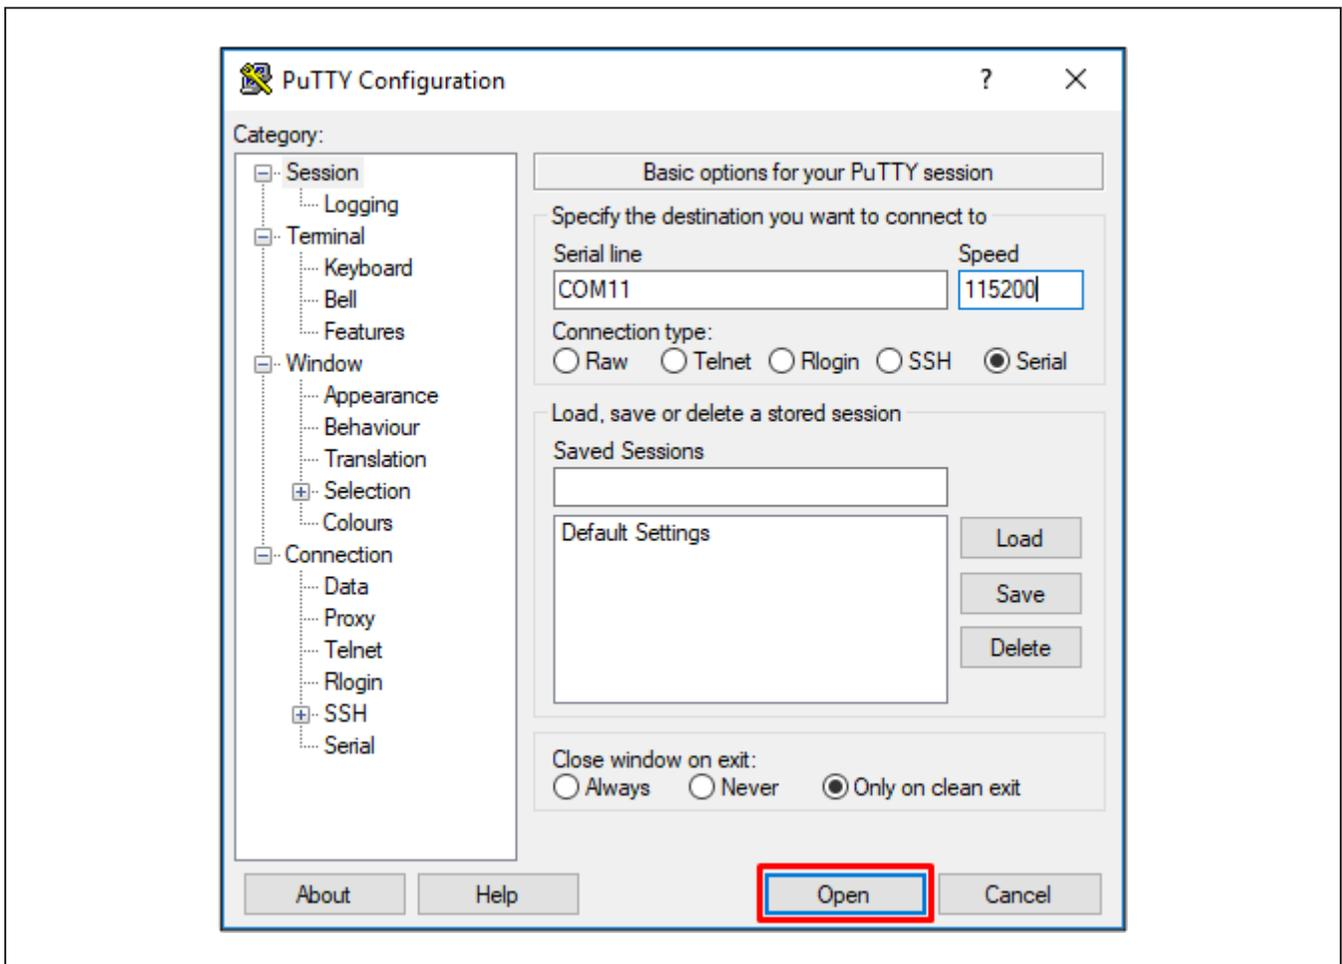

Figure 8. Opening a serial console.
8) Open a serial console and connect it to the MAX32660's corresponding serial COM port (Figure 8).